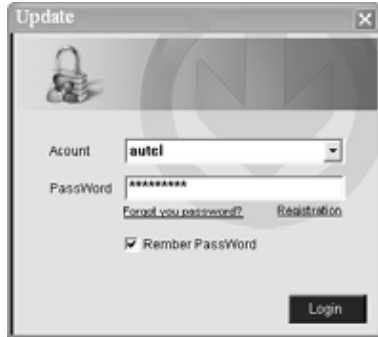

Figure 6.3
5. Run the update option in **PC Suit** software. Wait for the Log In window to pop up. (Figure 6.3)